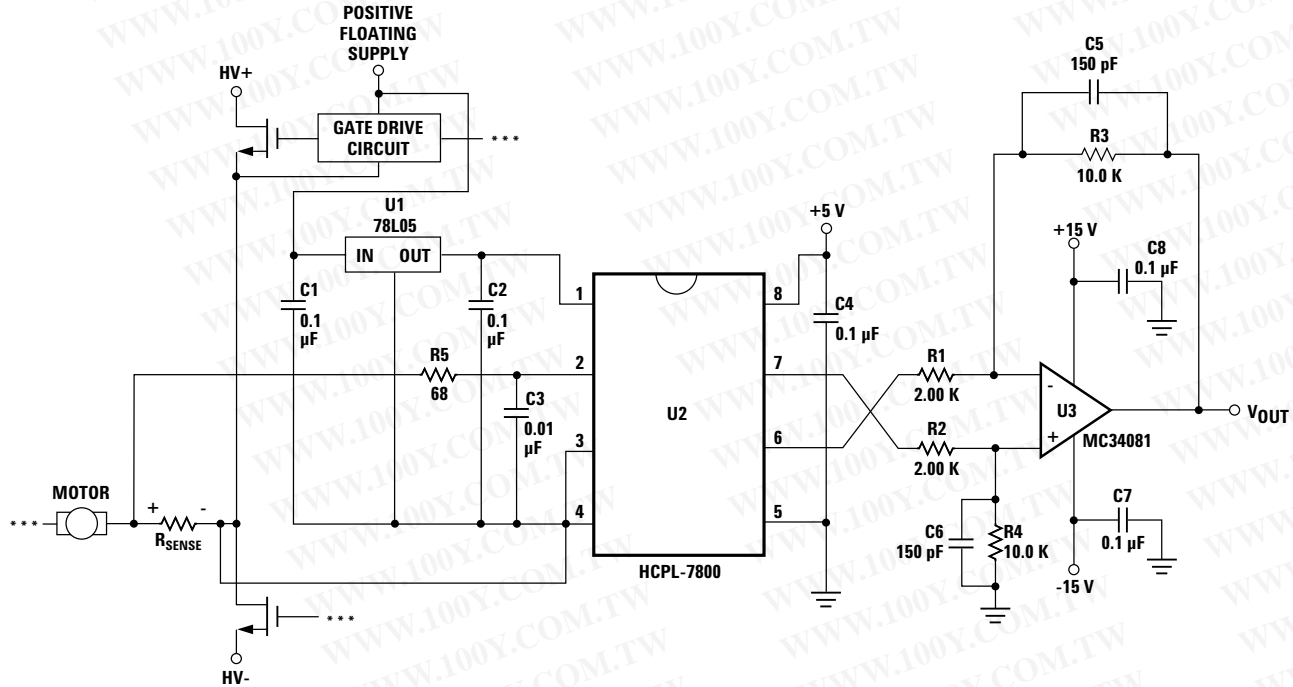

Figure 18: Recommended Application Circuit.
As shown in Figure 18, 0.1 μF bypass capacitors (C1, C2) should be located as close as possible to the pins of the HCPL-7800(A). The bypass capacitors are required because of the high-speed digital nature of the signals inside the HCPL-7800(A). A
The recommended method for connecting the HCPL-7800(A) to the current sensing resistor is shown in Figure 18. V_{IN+} (pin 2 of the HCPL-7800(A)) is connected to the positive terminal of the sense resistor, while V_{IN-} (pin 3) is shorted to GND1 (pin 4), with the power-supply return path functioning as the sense line to the negative terminal of the current sense resistor. This allows a single pair of wires or PC board traces to connect the HCPL-7800(A) circuit to the sense resistor. By referencing the input circuit to the negative side of the sense resistor, any load current induced noise transients on the resistor are seen as a common-mode signal and will not interfere with the current-sense signal. This is important because the large load currents flowing through the parasitic inductances inherent in the wiring of the circuit, can generate both noise spikes and offsets that are relatively large compared to the small voltages that are being measured across the current sensing resistor.